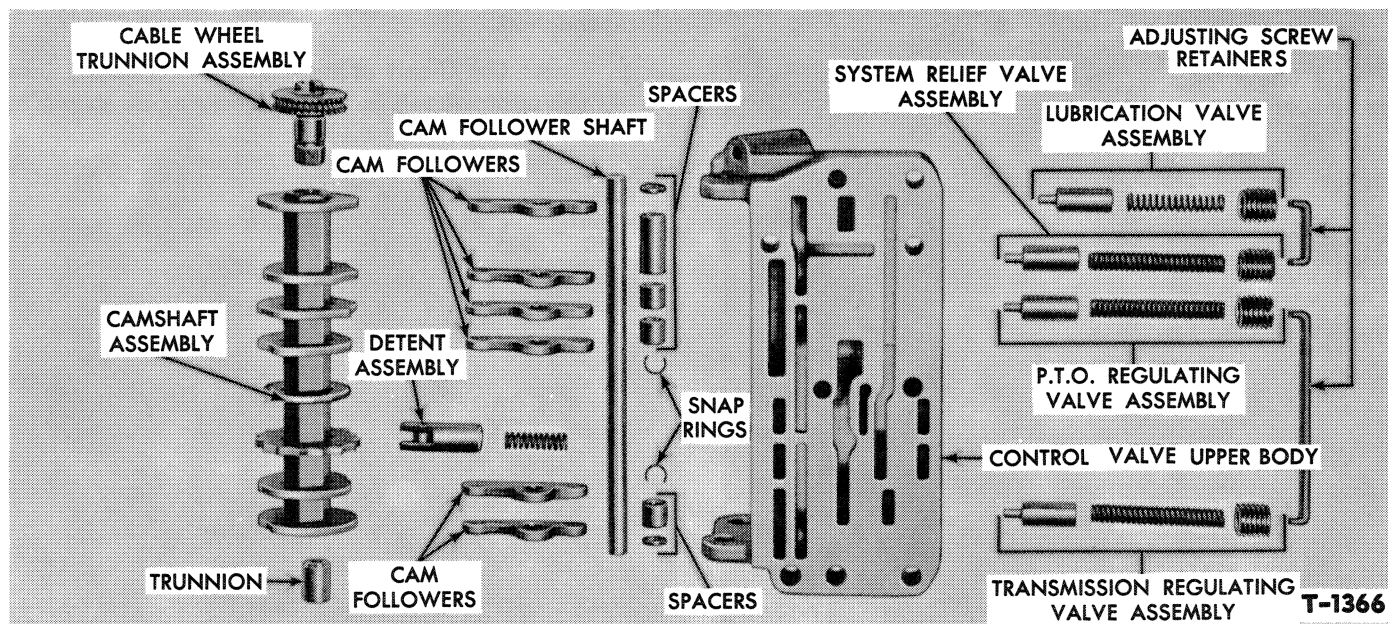

Figure 105—Control Valve Upper Body
4. Remove two adjusting screw retainers, four adjusting screws, four springs and the four plunger type valves from the valve upper body, shown in Figure 105.
body, shown in Figure 105, and secure this assembly with the two snap rings.